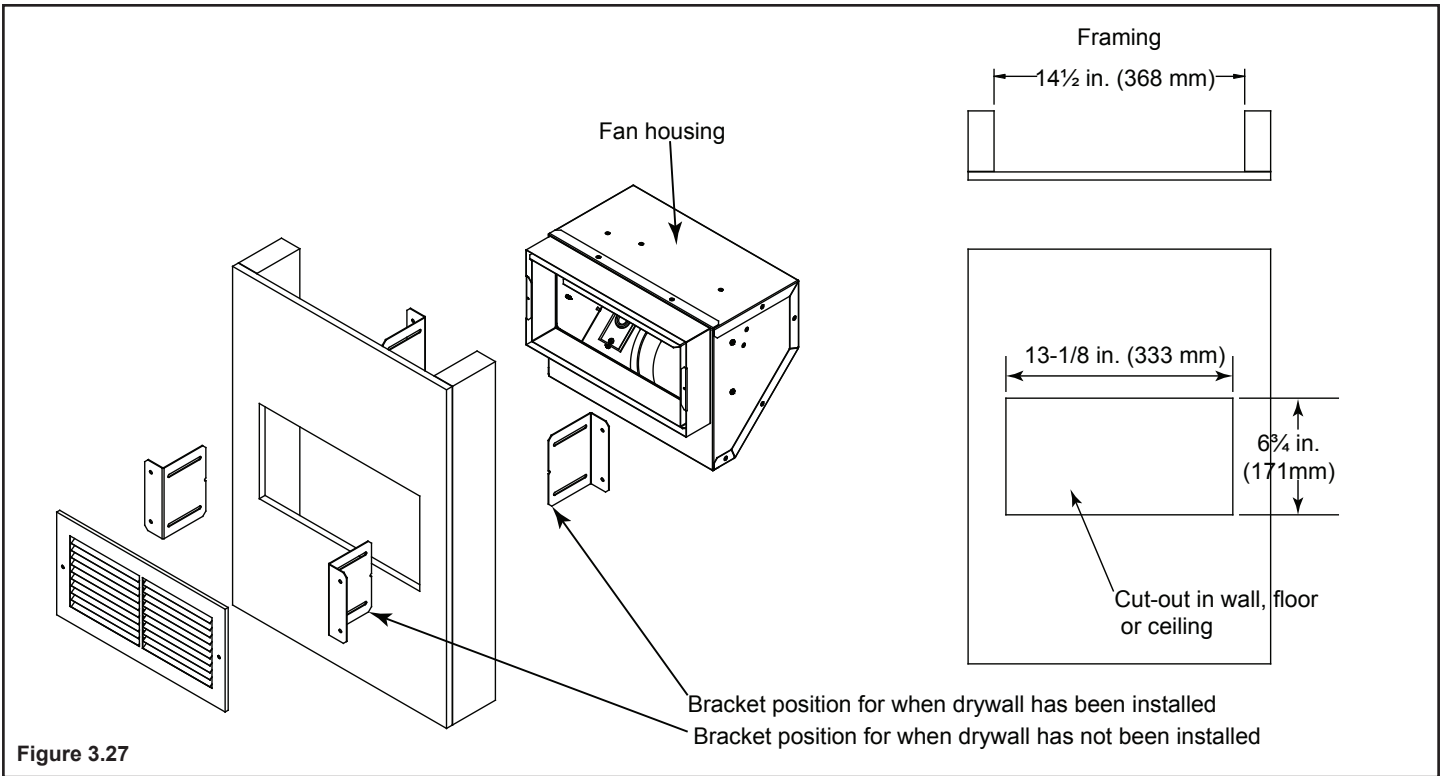

Figure 3.27
- Determine the location for the air register and fan housing assembly. Cut a 6-3/4 in. x 13-1/8 in. (213 mm x 333 mm) hole between framing members (wall studs or floor joists). The brackets can be rotated 180° and mounted to the back side of the 2 x 4 if necessary. See Figure 3.27.